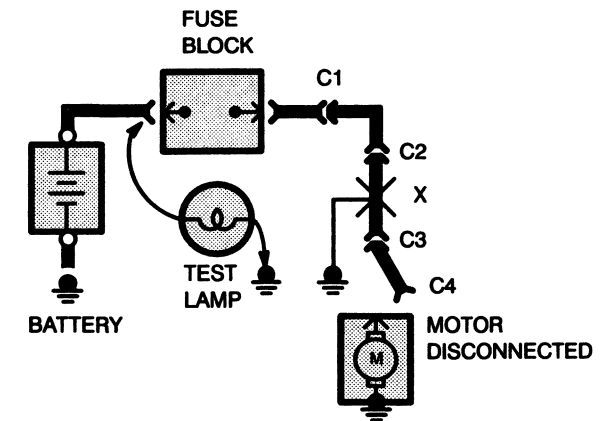

Figure 5—Short Check
A fuse that repeatedly blows is usually caused by a short to ground. It's important to be able to locate such a short quickly (Figure 5).
- Motors: disconnect motor connector (Connector C4 in Figure 5)
5. Disconnect the test lamp lead that is connected to ground, and reconnect it to the load side of the fuse at the connector of the disconnected component. (In Figure 5, connect the test lamp lead to connector C4.)
example, in figure 5 with a ground at X, the bulb goes out when C1 or C2 is disconnected, but not after disconnecting C3. This means the short is between C2 and C3.